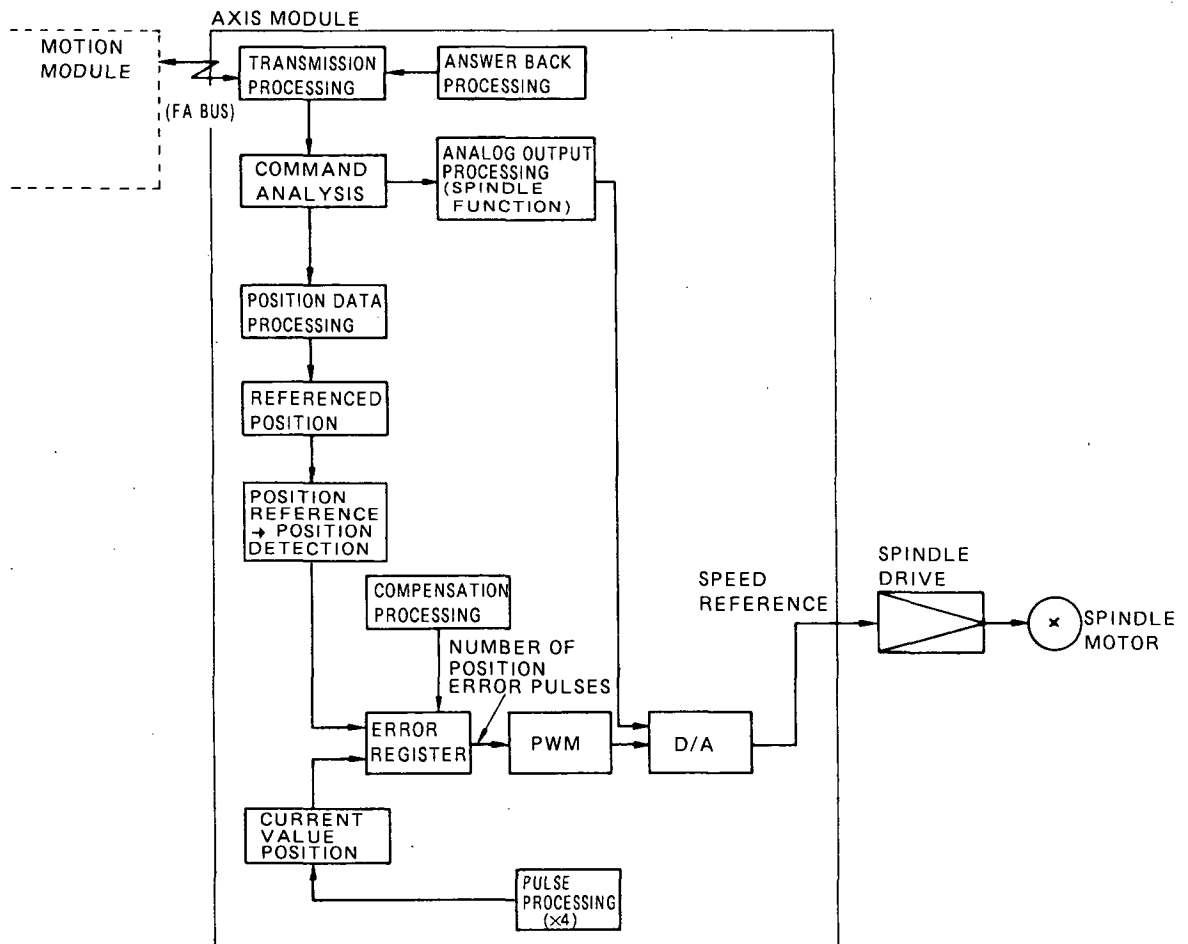

Fig. 2.4 Control Block Diagram of Axis Module (for Spindle Control)
- (2) The axis module can be used for spindle control by setting a selection switch. In this case, speed reference analog voltage is output by a reference from the motion module. Fig. 2.4 shows the axis module control block diagram for spindle control.